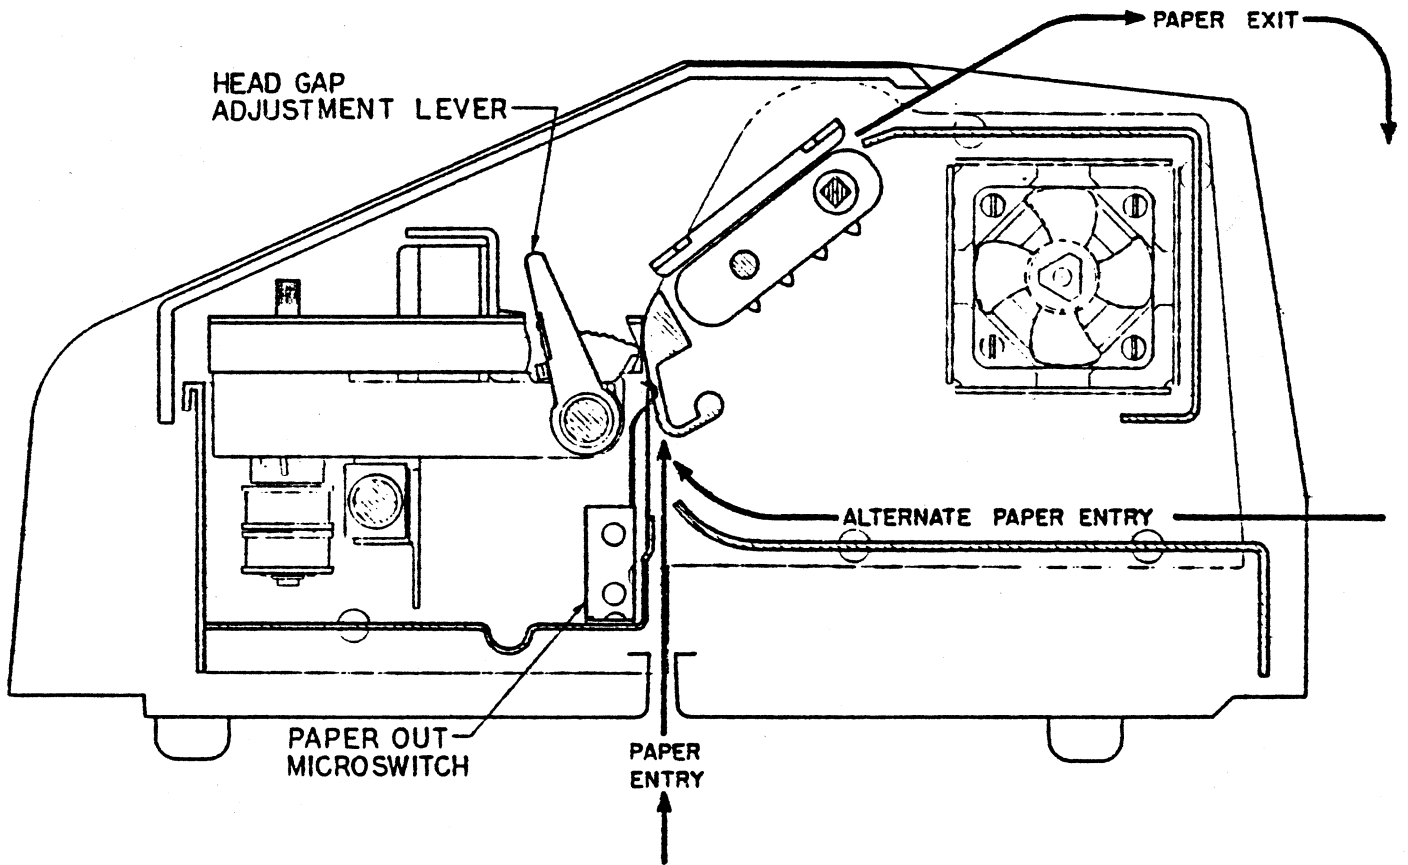

FIGURE 2-3. PAPER FEED PATH
4. Insert the paper through the bottom or rear paper entry slots (see Figure 2-3). Push the paper through until the paper clears the print head and ribbon cartridge assembly.